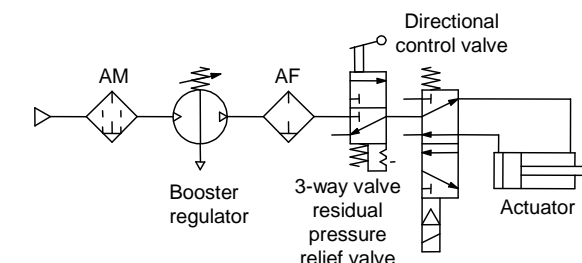

Fig.2 Circuit example (1)
- a) To quickly exhaust residual pressure downstream of the booster regulator for maintenance, connect a 3-way valve to the OUT port of the booster regulator (Fig.2).